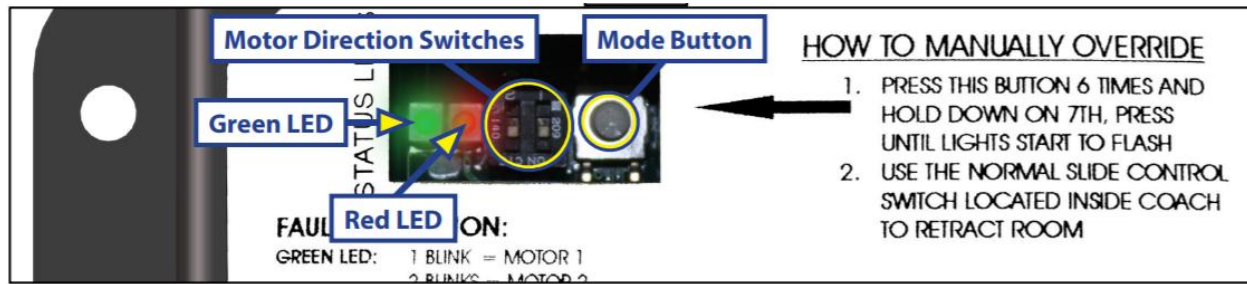

Figure 57. Controller interface showing Mode button.
1. Press the mode button on the controller (see Figure 57) six times and hold on the seventh for five seconds to enter electronic manual override mode.